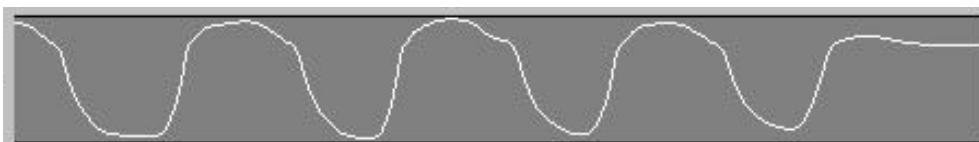

Figure 23 – Optimum Dynamic Range
- Once the finger has been calibrated, it should look as in Fig 23 when you repeatedly flex and unflex your finger.